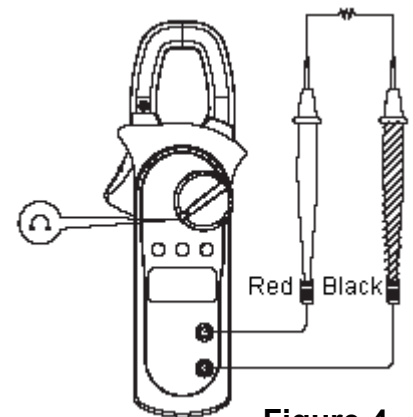

Figure 4
B. Measuring Resistance (see figure 4).